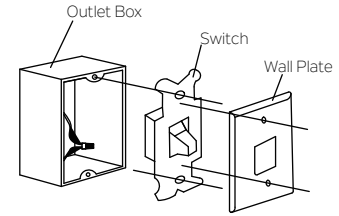

Fig. 22
Step 1. Remove the existing wall plate and the old switch from the wall outlet box, place the new control and wall plate. Wire nut the lead wire (hot) together and push back inside the outlet box. (Fig. 22) or select the desired location with a new wall outlet box.